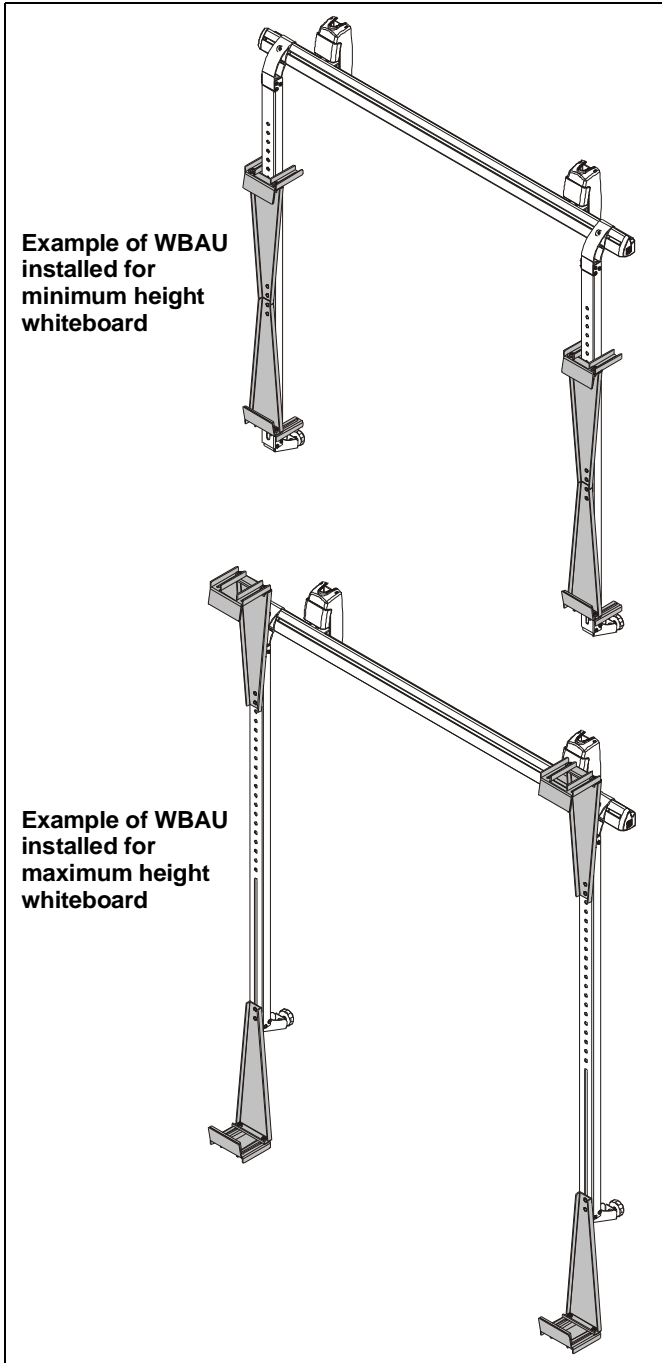

Figure 3
**IMPORTANT !** : The WBAU accessory is compatible with boards 26.69" (minimum) - 59.22" (maximum) tall, and 0.51" (minimum) - 3.14" (maximum) deep. (See Figure 3)